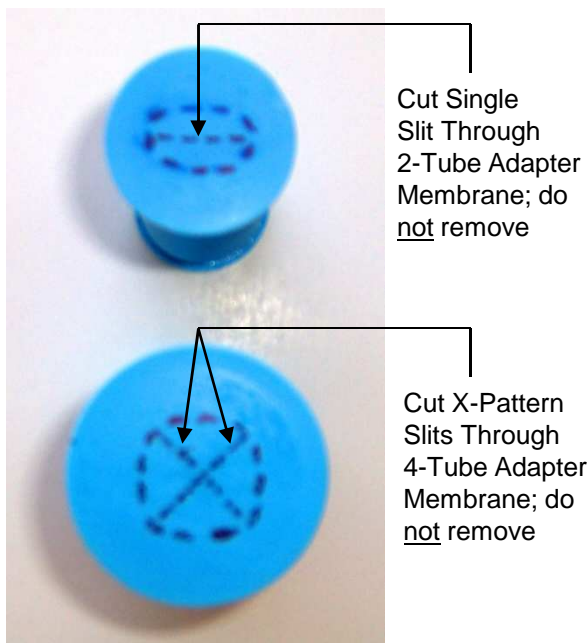

Figure 28
12.4 Carefully cut a slit through outer membrane of Adapter. Do not remove or totally cut out the membrane. Take care not to cut into body of Adapter. **See Fig. 28.**